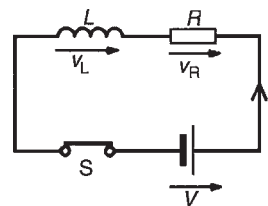

Figure 20.10
- (a) The circuit diagram for a series connected $L-R$ circuit is shown in Fig. 20.10. When switch S is closed, then by Kirchhoff's voltage law: